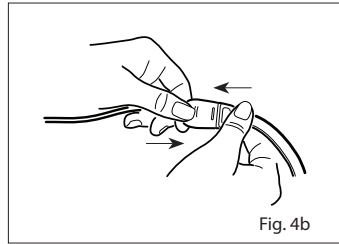

Fig. 4b
2. Refer to Fig. 4b. Insert the sensor tab into the patient cable until there is a tactile or audible click of connection. Gently tug on the connectors to ensure a positive contact. Tape may be used to secure the cable to the patient for ease of movement.